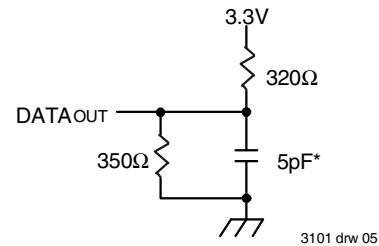

Figure 2. AC Test Load
1. This parameter guaranteed with the AC test load (Figure 2) by device characterization, but is not production tested.